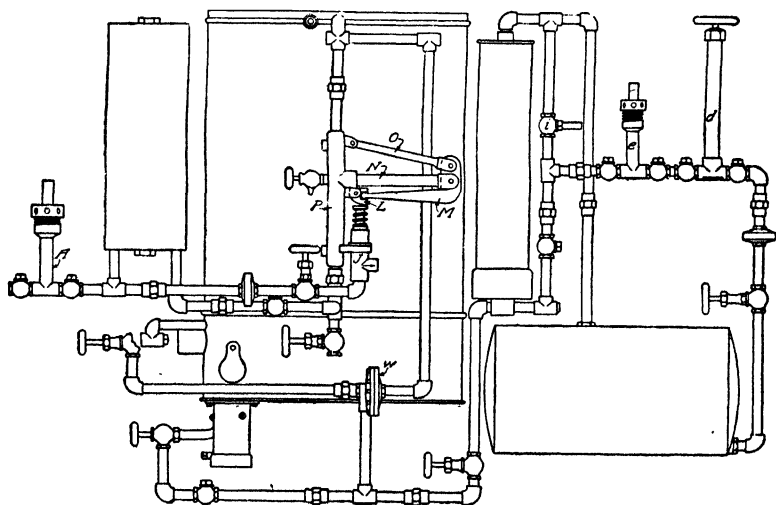

Fig. 54. Diagram of Connections for Ofeldt Boiler Feed and Fuel Systems
**Ofeldt.** *Fuel, Water, and Steam Connections.* Fig. 54 gives a clear idea of the fuel, water, and steam connections of the Ofeldt